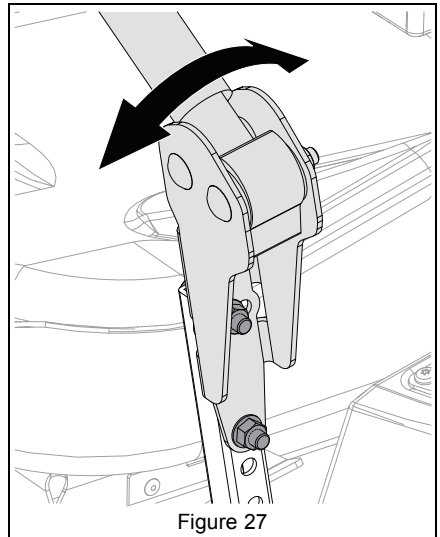

Figure 27
8. Loosen mounting hardware, align levers and tighten hardware. See Figure 27.